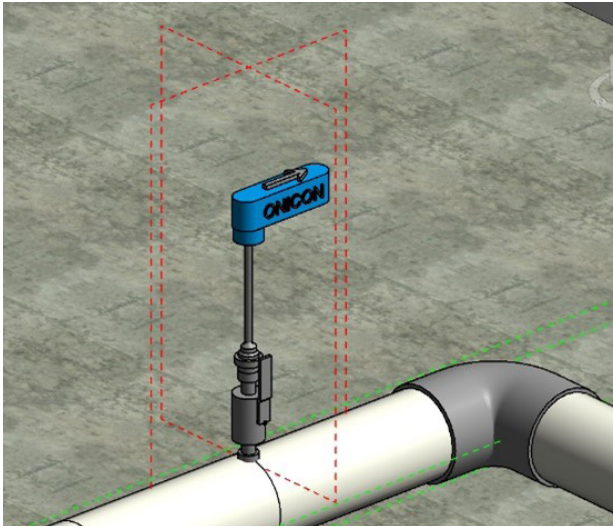

Figure 1
- The red installation clearance box shows the amount of space required for installation (figure 1).
- The green flow recommendation box depicts the average straight pipe required for installation (figure 1). A full list of straight run recommendations are available in the flow meter IOM.